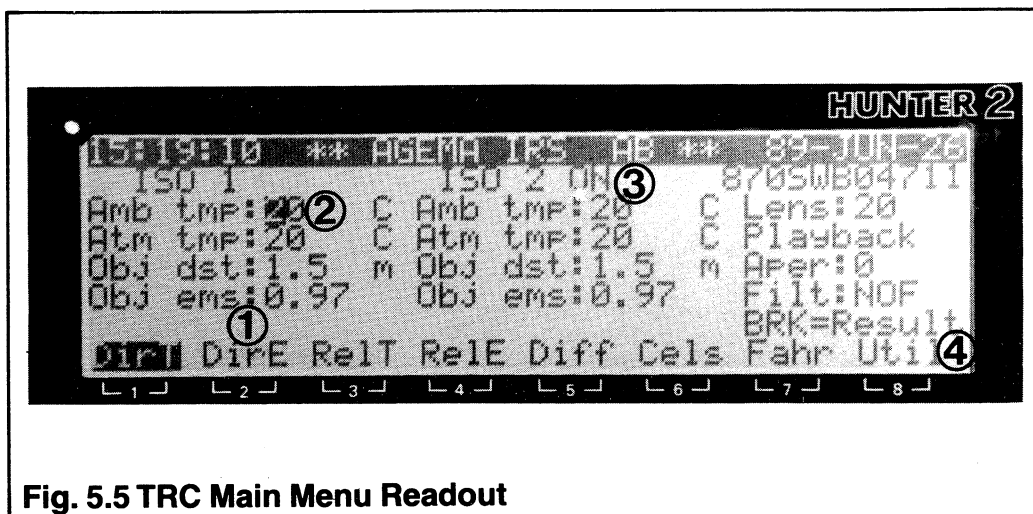

Fig. 5.5 TRC Main Menu Readout
- (b) Press the red PWR (power) button on the TRC. This action will restart the TRC from where it was previously switched off, if it was left in INPUT mode. In any other mode the menu/parameter list shown in Fig. 5.5 will be displayed, including the main menu (MENU) at the bottom of the display. If any of the displayed parameters (except the scanner type and serial number) need to be altered before the measurement result is automatically calculated, refer to sub para (e). Aper and Filt are default values, which refer to play back from the System VCR. Enter the values used during the recording as new default values and they will be shown in the RESULT display.